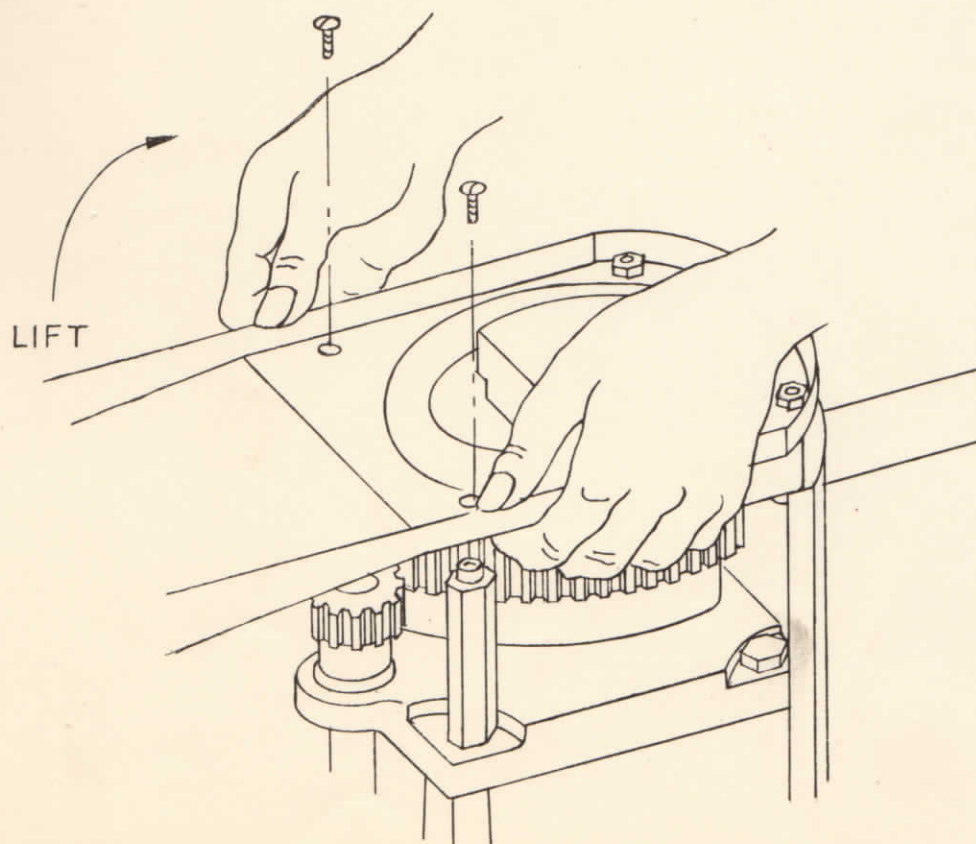

Figure 7
2. Remove ball pellets from feed gear and tray. (The small magnet supplied will help.) Remove 2 screws that hold tray. Remove tray by lifting up at front end and pulling forward. (See Figure 7)